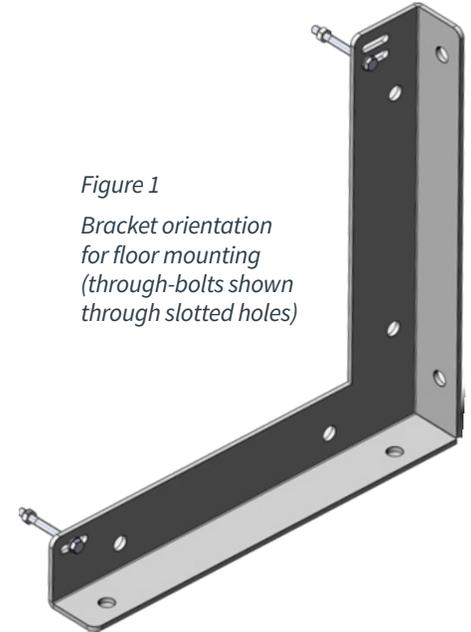

Figure 1
2. Mount WGM-FLM-1 to floor or other structure, with the two slotted ends standing upright as shown in Figure 1.